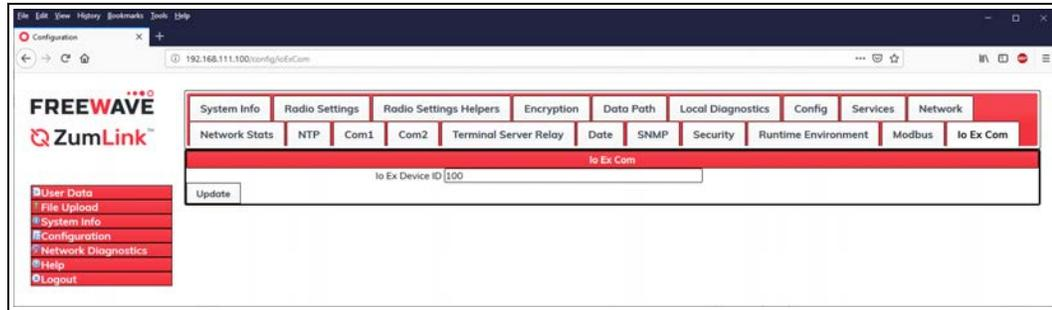

Figure 268: Io Ex Com window
6. Click the **Io Ex Com** tab to access the **Io Ex Com** parameters. Figure 268